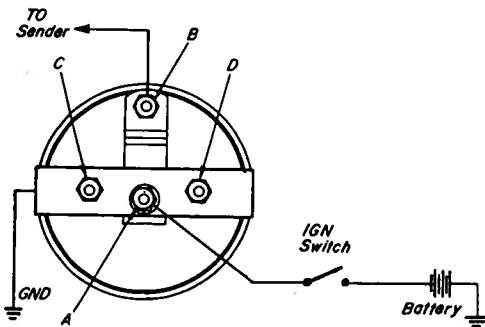

FIGURE 2
2. If gauge has FOUR TERMINALS; (A) for wire to ignition, (B) for wire to sending unit, (C) and (D) either stud may be used for wire to ground (and for lighting kit 366-CH bracket, if lighting is desired). FIGURE 2